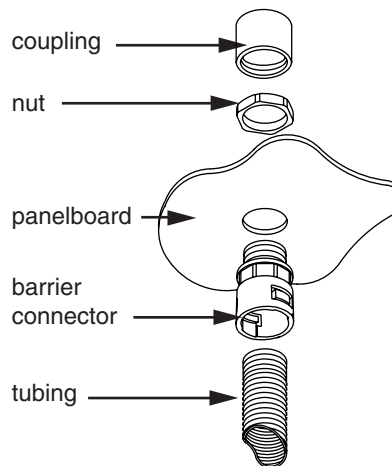

Figure 5: Attaching to a conduit
6. Attach a 3/4 in. coupling (not included) to the barrier connector (see Figure 5).